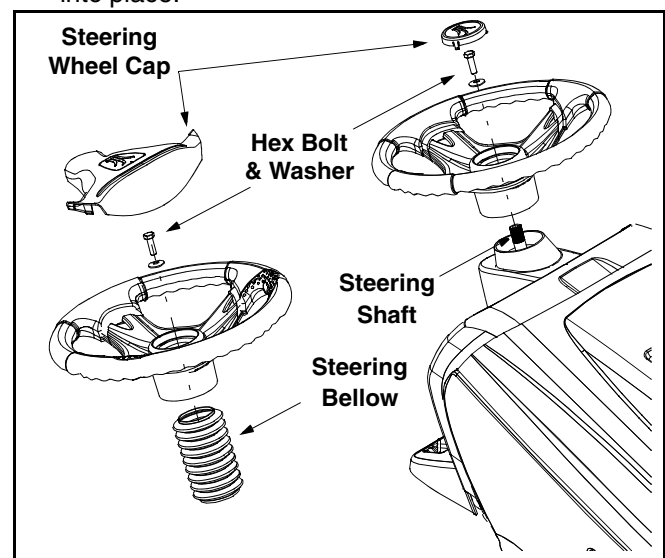

Figure 2
NOTE: There are two different styles of steering wheel cap. See Figure 2. **Styles vary by model.**
- On models so equipped, place the steering bellow over the steering shaft extending through the dash. See Figure 2.
- Place the washer (with the cupped side down) over the steering shaft and secure with the hex bolt. See Figure 2.